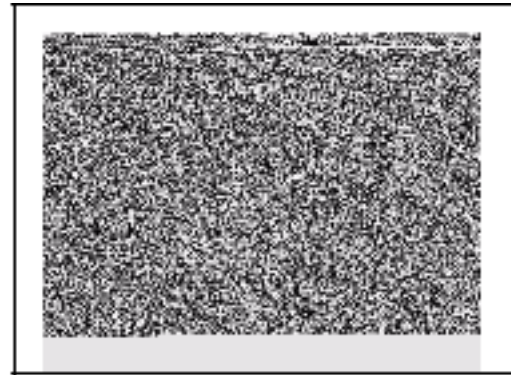

Fig. 144
Lay the throttle plate (M) on the flat of the throttle shaft. Install two screws (N) Fig.144).